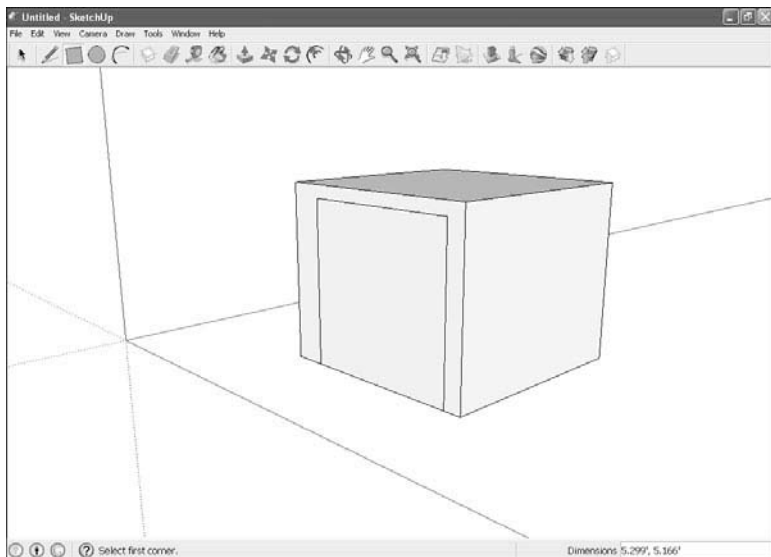

FIGURE 5.21 Adding a rectangle to a cube.
6. Draw a rectangle on the cube as shown in Figure 5.21.